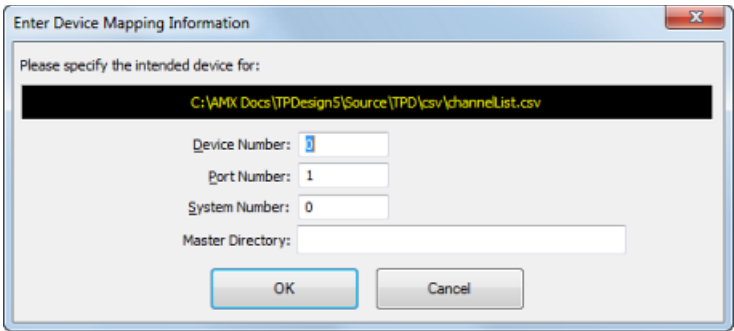

FIG. 123 NetLinX Studio 4 - Enter Device Mapping Information dialog
5. In the *Open* dialog, locate and select the CSV file to use as a data source and click **Open** to access the *Enter Device Mapping Information* dialog (FIG. 123):